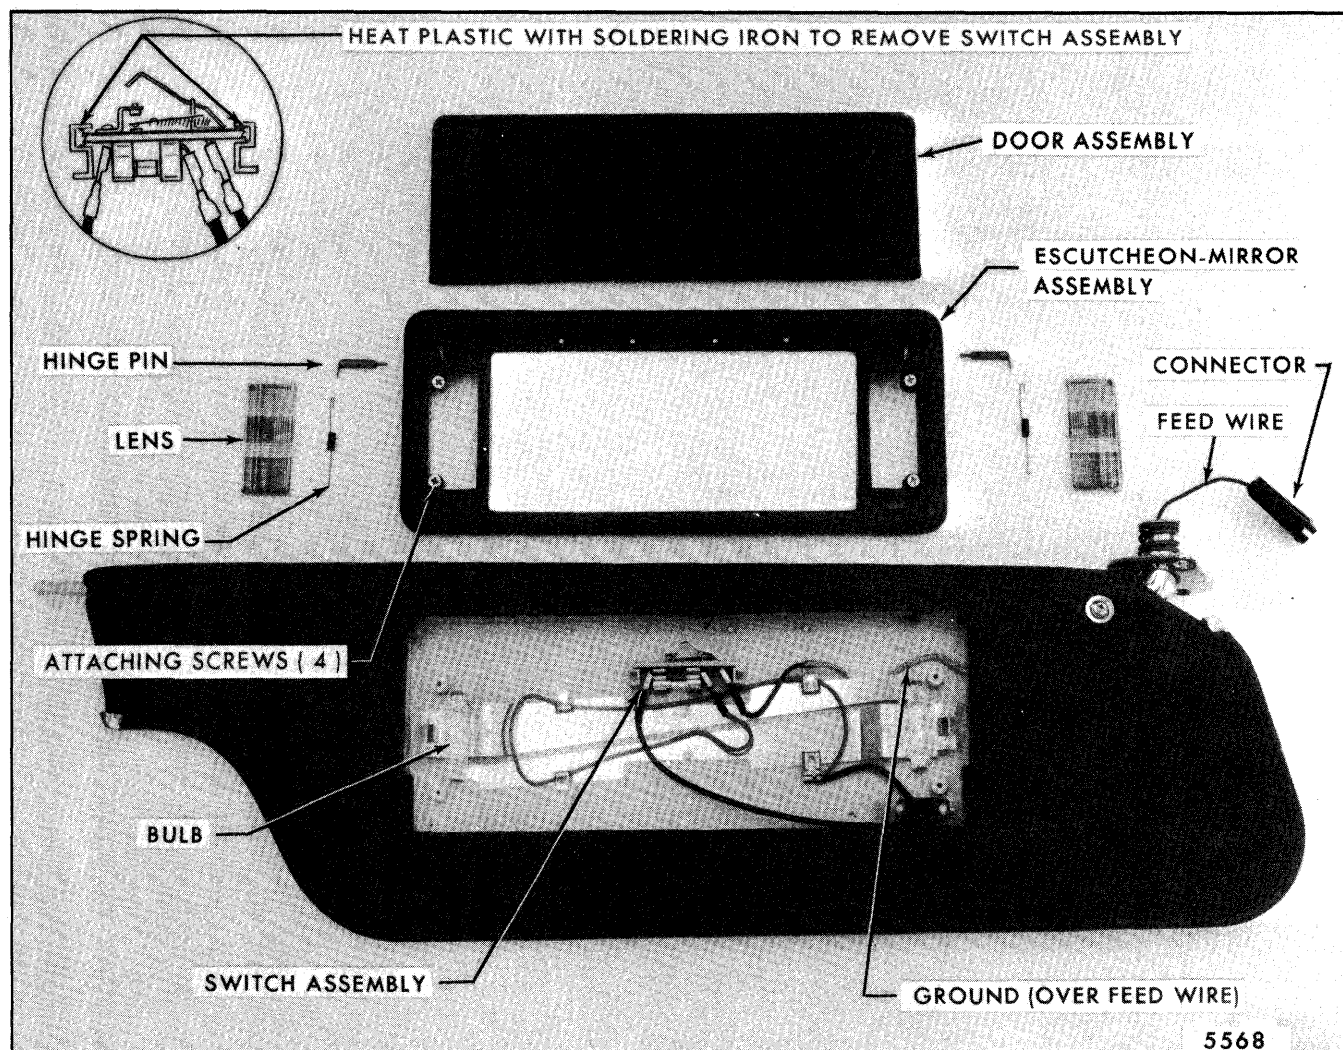

Fig. 8-4-Vanity Mirror and Lamp Assembly
The vanity mirror body harness extends above the windshield opening to the top of the right windshield pillar. At this point a connector attaches to the lamp assembly harness (Fig. 8-4).
2. Remove four (4) attaching screws that secure mirror and escutcheon assembly to sunshade.
3. To remove switch and fuse assembly disconnect wiring at switch. Then, heat plastic that covers top ends of fiber switch base with a soldering iron (Fig. 8-4).
4. The mirror cover (door) is removed by disengaging the hinge pins from plastic tabs at each end of the mirror and escutcheon assembly, then pulling hinge pins outboard (Fig. 8-4).